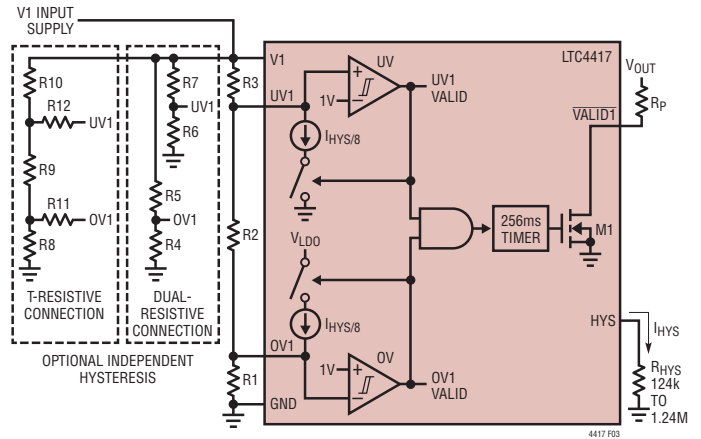

Figure 3. LTC4417 External Hysteresis
Hysteresis for the OV and UV comparators are set via the HYS pin. Two options are available. Connecting a resistor, R_{HYS} , between HYS and GND, as shown in Figure 3, sets the hysteresis current $I_{OV_UV(HYS)}$ that is sunk into UV1, UV2 and UV3 and sourced out of OV1, OV2 and OV3. The value of R_{HYS} is calculated with Equation (1). Choose R_{HYS} to limit the hysteresis current to between 50nA and 500nA.
Independent OV and UV hysteresis values are available by separating the single string resistive dividers R1, R2 and R3, shown in Figure 3, into two resistive strings, R4-R5 and R6-R7. In such a configuration, the top resistor defines the amount of hysteresis and the bottom resistor defines the threshold. Use Equations (2) and (3) to calculate the values.
When large independent hysteresis voltages are required, a resistive T structure can be used to define hysteresis values, also shown in Figure 3. After the desired OV and UV thresholds are set with resistors R8 through R10, R11 and R12 are calculated using:
Extending the filter time delay will result in a slower response to fast UV and OV faults. Extending the UV pin fault filter time delay will also add delay to the OV pin. If this is not desirable, separate the single resistive string into two resistive strings, as shown in Figure 3.